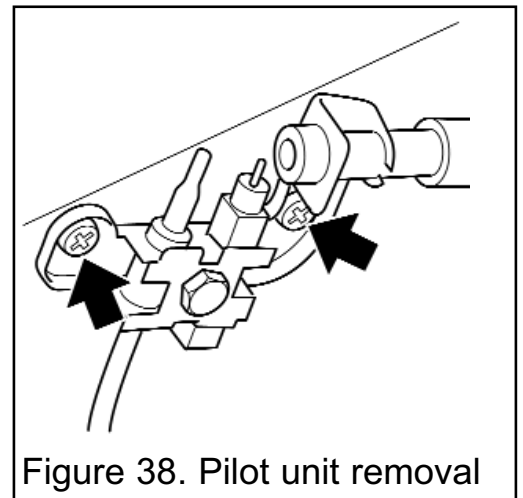

Figure 38. Pilot unit removal
5. Remove the two screws securing the pilot unit (See figure 38).